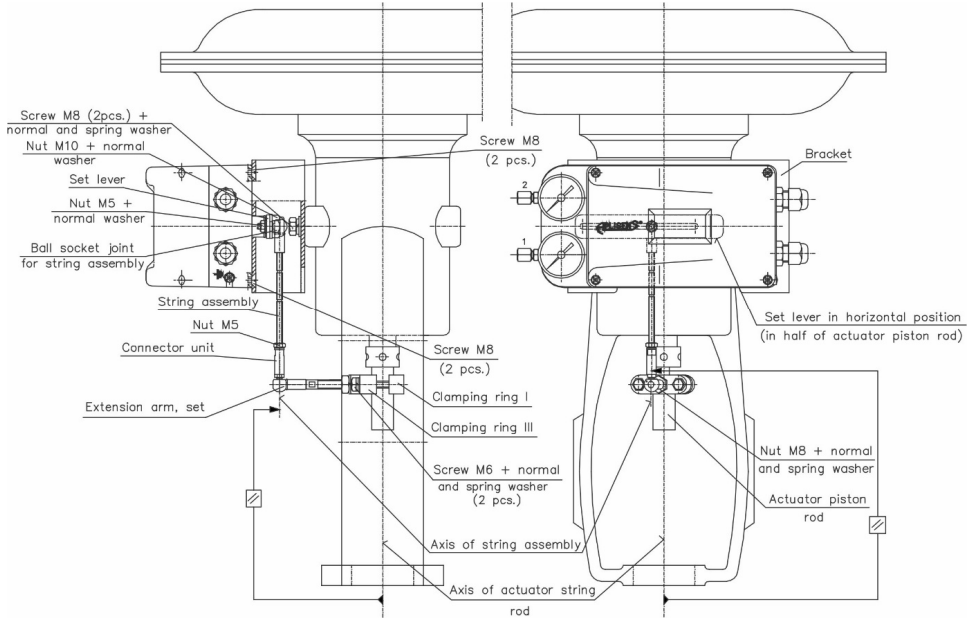

Fig. 5. Positioner APIS-1X0-... with mounting kit APIS-A0001-SS or SO (positioner installed on yoke actuator type 37 or 38 manufactured by Polna S.A.).
- b) Install the ball-and-socket joint on setting lever of the positioner in place corresponding to stroke of the actuator and tighten M5 nut (see Fig. 5 and 6)
- i) Screw extension arm set into clamping ring III; then adjust its length and move whole positioner in relation to the positioner using longitudinal cut-out for fixing screws in a mounting bracket to ensure that lever set (installed later) is parallel to actuator piston rod. If the extension arm is too long it should be cut to the required length (see Fig. 5 and 6).